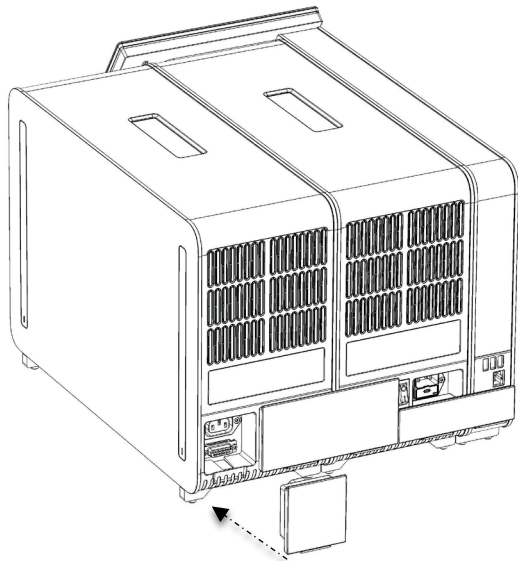

Figure 19. Connecting the Termination Bridge.
7. Connect the Termination Bridge at the back of the Analytical Module (Figure 19, next page).